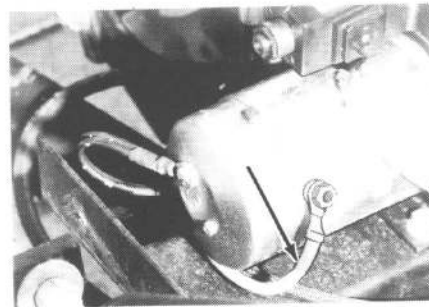

Figure 1-10
1. Install an Inductive Pick-up Amp meter around the terminal lead wire of the motor. See Figure 1-10.